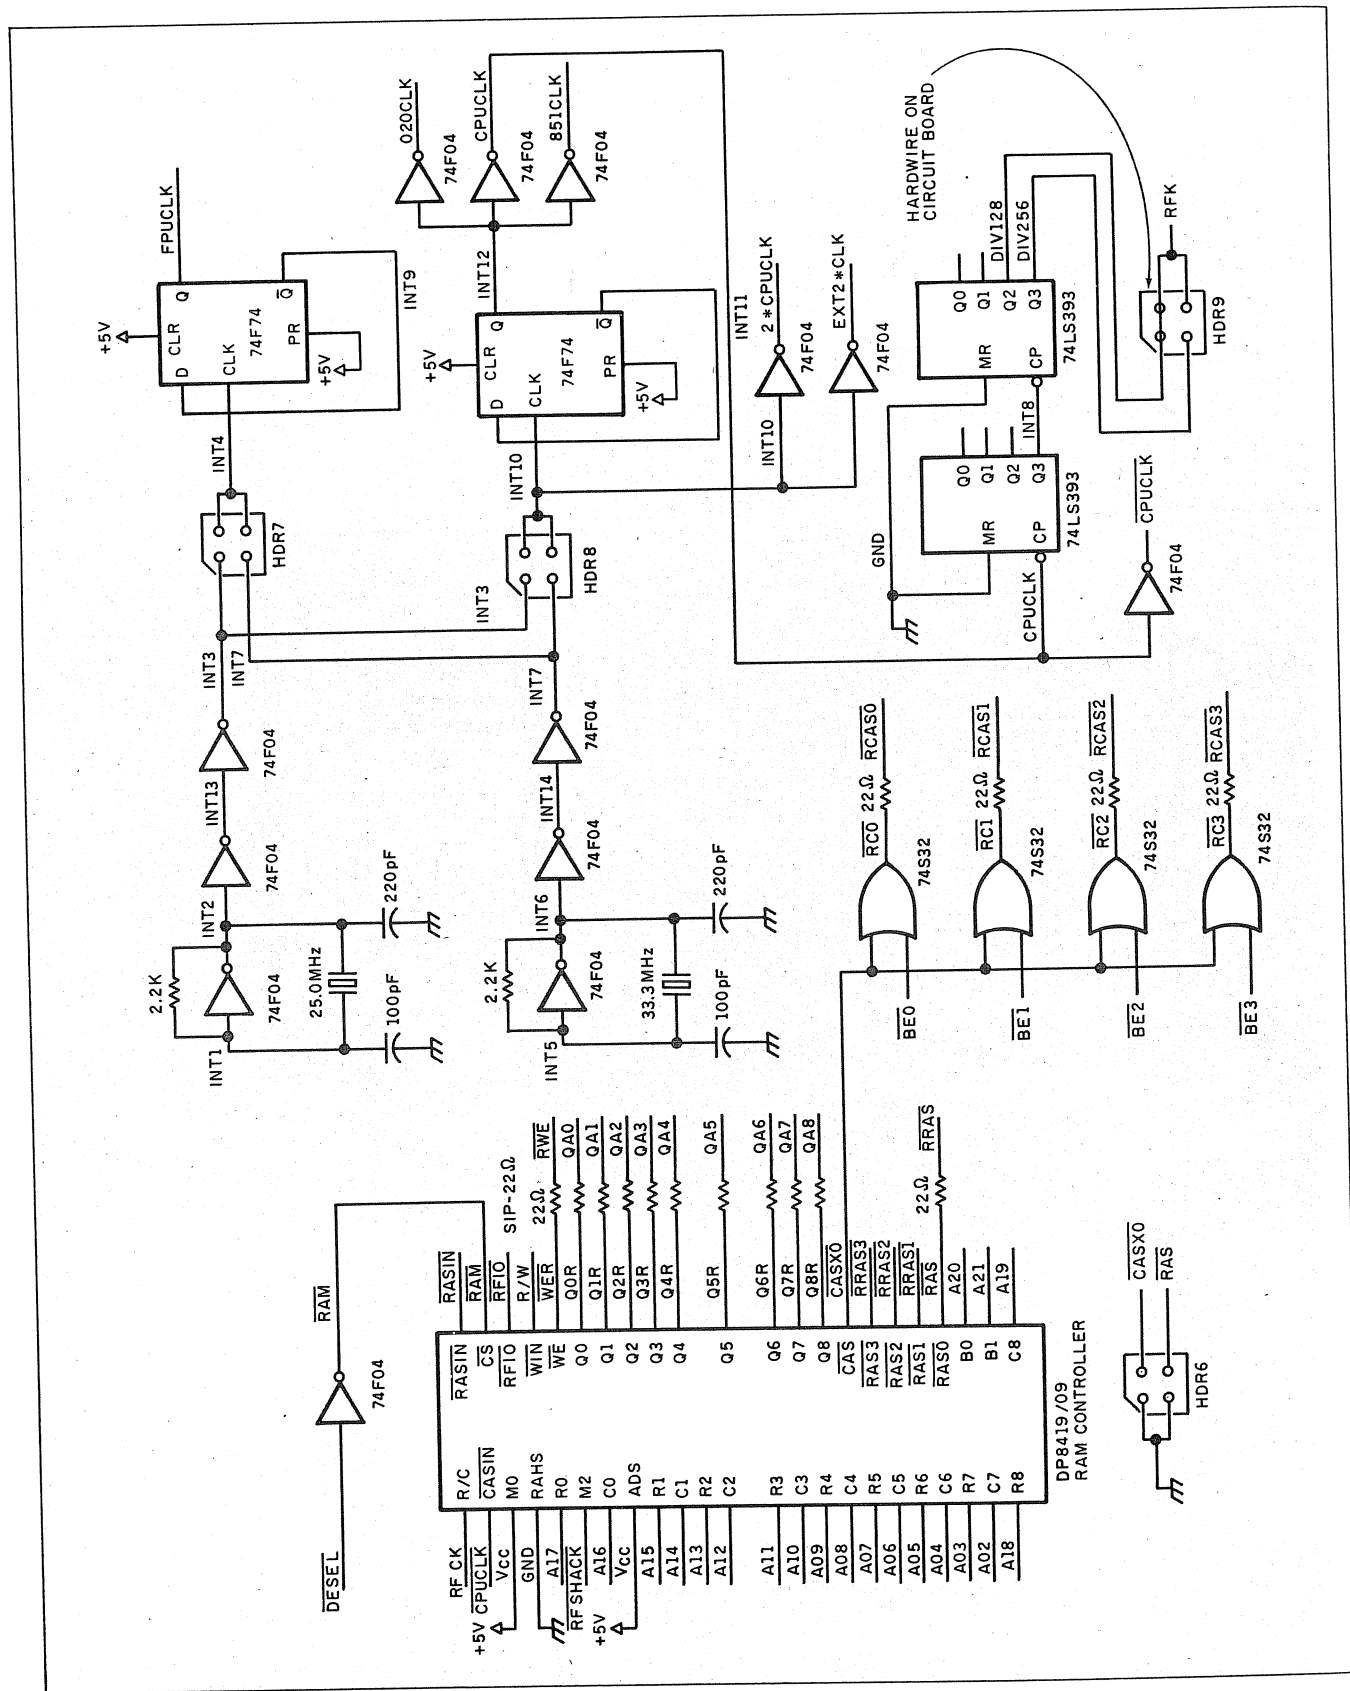

Figure 5: RAM controller circuitry.
A delay line and associated headers delay the CPU's address strobe (AS) signal long enough for all the decoding to have been completed before the $\overline{\text{RASIN}}$ signal is generated to initiate the DP8409 dynamic RAM controller's access cycle. The DP8409 (figure 5) directly drives the multiplexed address and $\overline{\text{RAS}}$ lines of the RAMs. The $\overline{\text{CAS}}$ signal is multiplexed with the Byte Enable signals before being applied to the RAM array, shown in figure 6. The refresh counter is driven from the CPU's clock oscillator, divided by 128. The DP8409 attempts to do a hidden refresh, but if this is not possible, a refresh request ($\overline{\text{RFIO}}$) will be sent to the HOLD20 PAL every 10.24 microseconds. When this is acknowledged (with $\overline{\text{RFSHACK}}$) the DP8409 will perform a $\overline{\text{RAS ONLY}}$ refresh cycle.